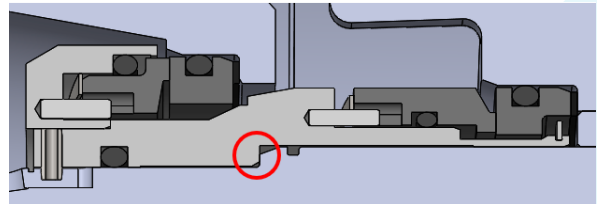

Figure 2. Seal on Shaft
2. Slide the seal assembly onto the shaft until the seal sleeve hits the step in the shaft (Figure 2). There will be some resistance from the seal springs as the spring force tries to push the seal back out.